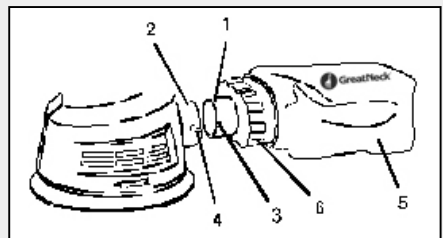

Fig. 6
1. Slide the dust bag connector (1) into the dust port (2) in the rear of the sander (Fig. 6).
**NOTE:** Make sure the dust bag connector key (3) mates with the dust port key way (4).
3. Remove the dust bag container (5) from the dust bag frame (6) periodically to remove the dust from the bag.